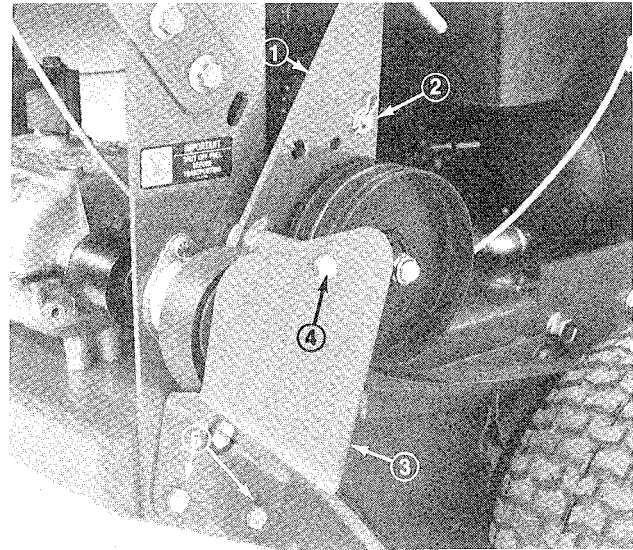

Figure 22
1. Remove top capscrew securing idler support and idler bracket to rear frame (Fig. 22).
2. Loosen bottom two mounting screws enough to allow belt to pass between drive pulley and idler support (Fig. 22).